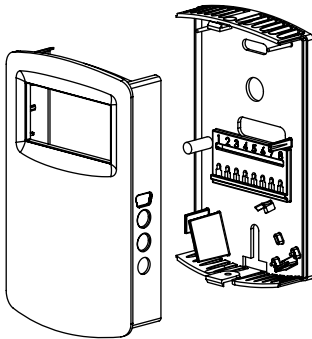

Figure 1: Removal of cover from back plate
1. Push tab on top and bottom of cover and lift cover from back plate (See Figure 1).
- Step 1: Remove the cover as shown in Figure 1.